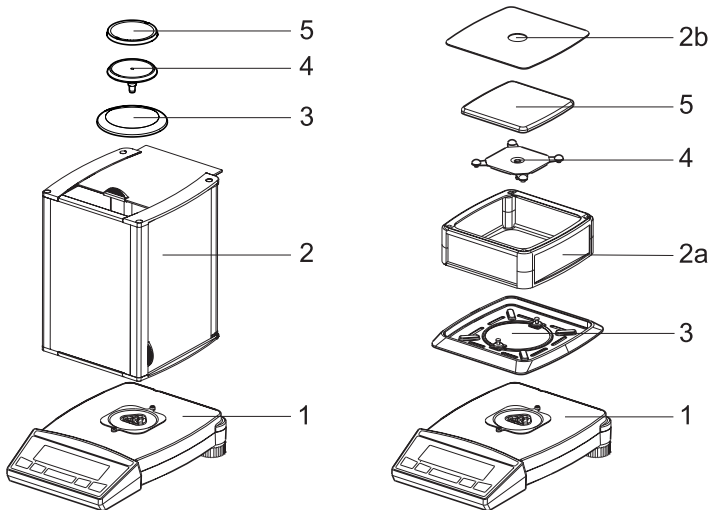

Fig. 2.1 Your balance
The balance consists of the balance body (1), the scale-pan holder (4) and the pan (5), which depending on the model may be square (fig. 2.1, right) or round (fig. 2.1, left).
Depending on the model (see Chapter 2.3 “Data and parameters”) the balance additionally has a simple windshield (fig. 2.1, right) or a windshield with sliding doors (fig. 2.1, left) (2) and/or a protective ring (3).